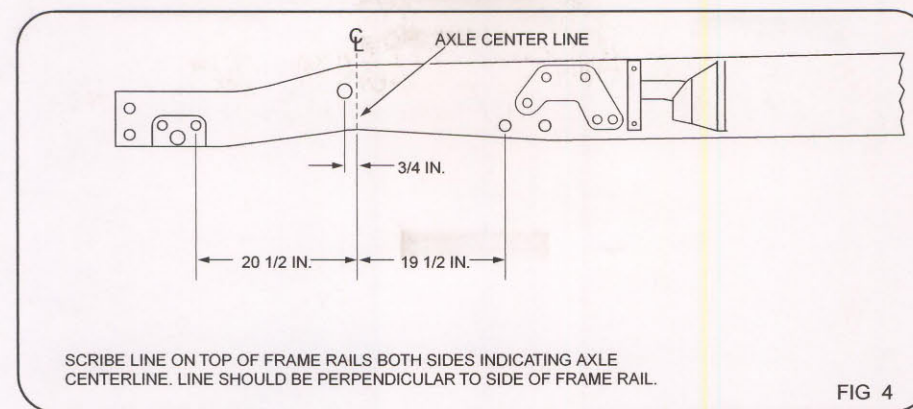

FIG 4
- 9) Measure and mark axle center line per Sheet 4, Figure 4.
- 10) Install crossmember in frame. Hold in place using floor jack. Make sure crossmember and frame rails meet corner to corner per Sheet 4, Figure 4. Some straightening to upper and lower frame rails may be required. Fit is important. Axle centerline is indicated on crossmember by the notch at the top of the boxing plate.